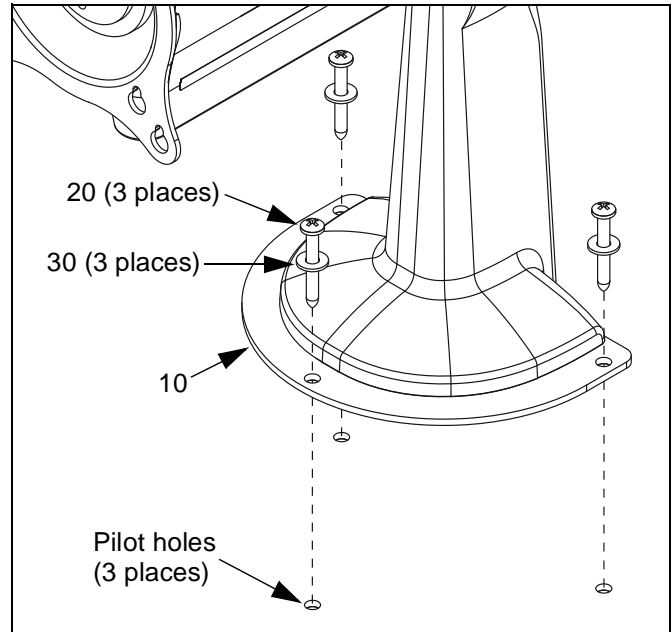

Figure 6: Install Mount
2. Using bracket (10) as a template, mark location of three pilot holes.
3. Drill three 1/8" diameter pilot holes in mounting structure at locations marked in previous step (See Figure 6). Ensure pilot holes are straight.
4. Using Phillips screwdriver, install screws (20) through washers (30) and mount (10) into pilot holes (See Figure 6). Tighten securely.